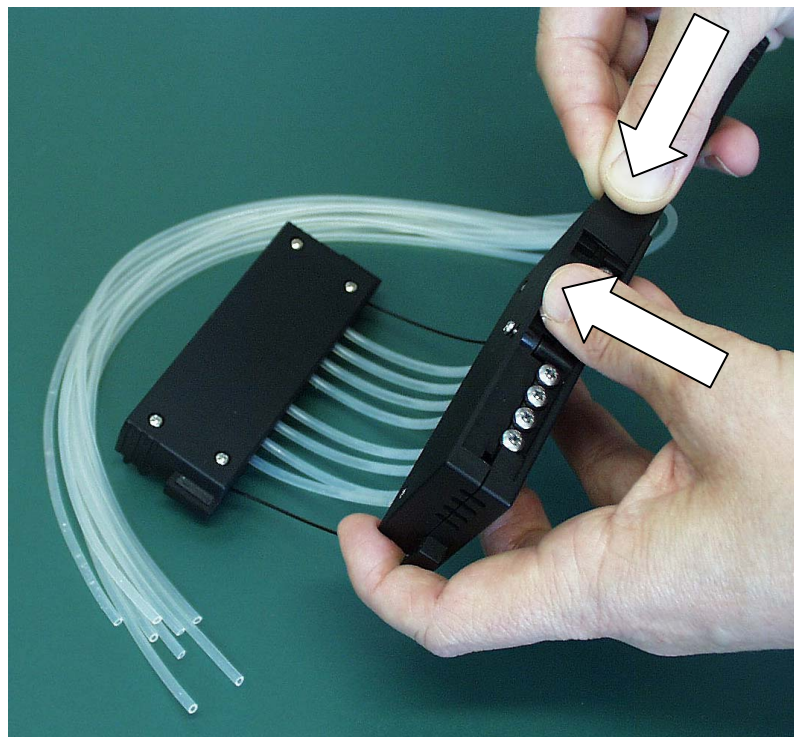

Fig. 7.30 Sliding the plate onto the calibration screws
15. Slide the calibration screw cover easier by lifting or bending the upper cover slightly (*Fig. 7.30*).